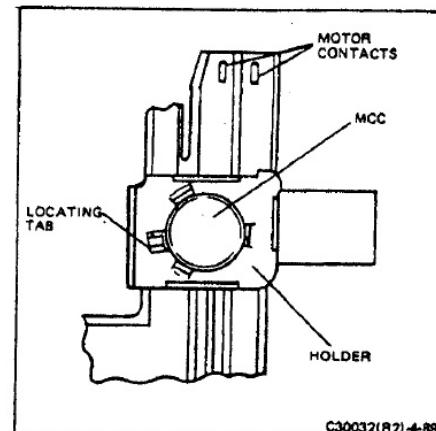

FIGURE 4-89 LOCATING TAB POSITION ON MCC
- (a) Referring to Figure 4-89, position the MCC on the circuit.
- 6. Refer to Figure 4-89 and press the MCC holder into place on the MCC.